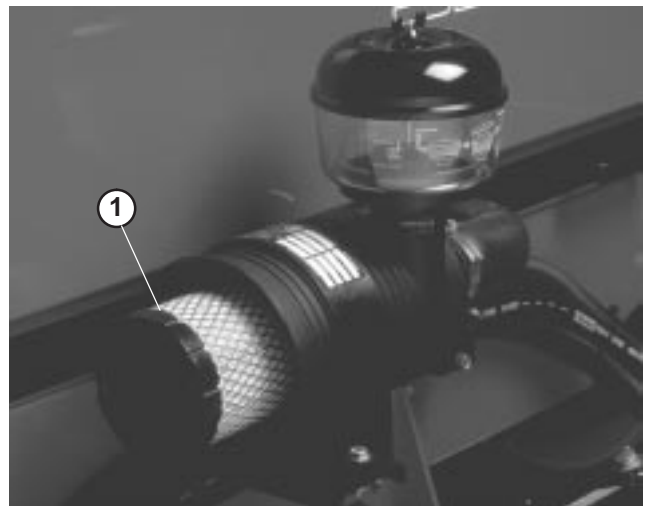

Figure 48
2. Gently slide filter element out of air cleaner body (Fig. 48) to reduce the amount of dust dislodged. Avoid knocking filter against air cleaner body.